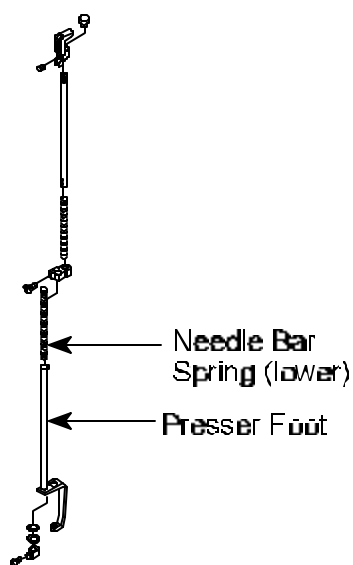

Figure 6
13. **Remove** Presser Foot and Needle Bar Spring (lower). See Figure 6.